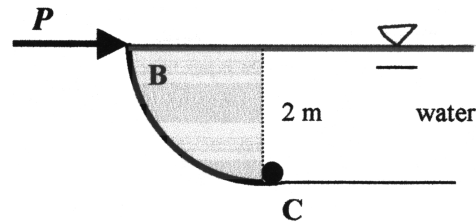

Fig. P2.86
**2.86** The quarter circle gate BC in Fig. P2.86 is hinged at C. Find the horizontal force  $P$  required to hold the gate stationary. The width  $b$  into the paper is 3 m.